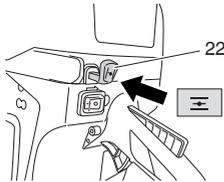

Fig. 27
- When you hear first ignition, push the choke lever (22) fully to set it in the run position. (Fig. 27)